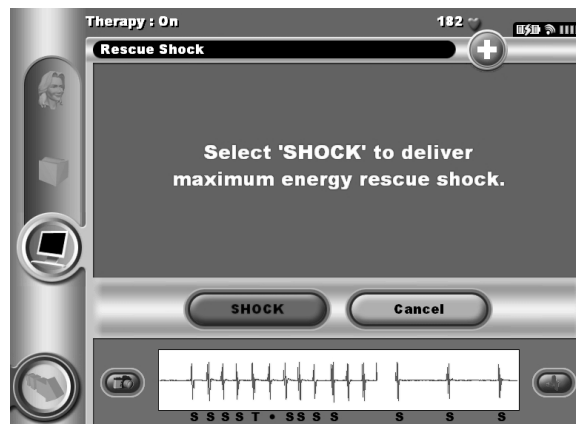

Figure 52: *Rescue Shock screen*
1. Select the red Rescue Button at the top of the programmer screen. The Rescue Shock screen appears (Figure 52).